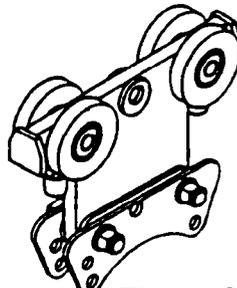
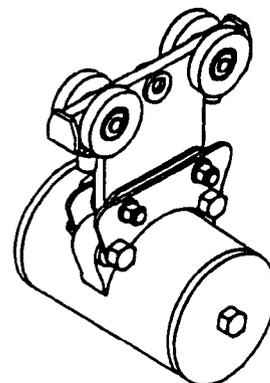

Figure 3
Figure 4
4. Slide second bracket onto screws. Install (1) No. 75587 prevailing torque locknut onto each screw. Hand tighten nuts at this time. (Figure 3)
5. Insert two (2) No.17025 bushings into lugs on Balancer Housing.
6. Position Trolley Assembly so that the brackets straddle the housing lugs. Insert (2) No.17047 screws through brackets and bushings and thread (2) No.17060 plastic insert locknuts onto screws. (Figure 4)